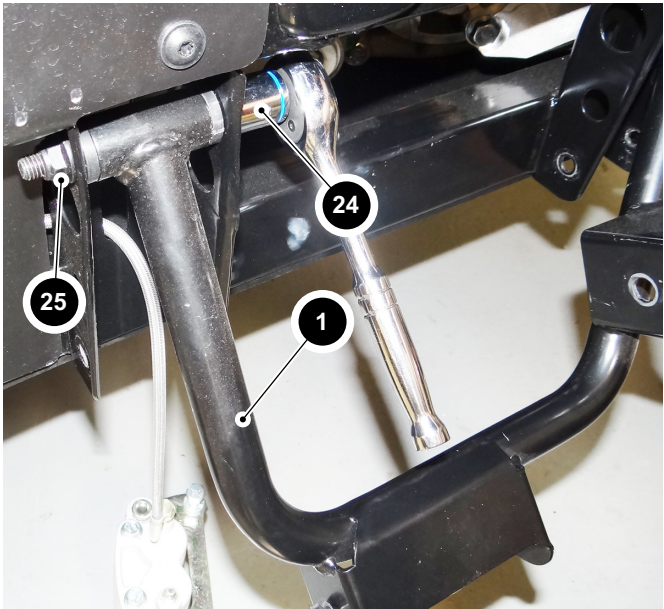

Fig. 11 Upper Control Arm
7. Remove the nuts (20) and bolts (7) that secure each side of the lower control arm (2) to the vehicle frame (Ref. Fig. 1)(Ref. Fig. 11).